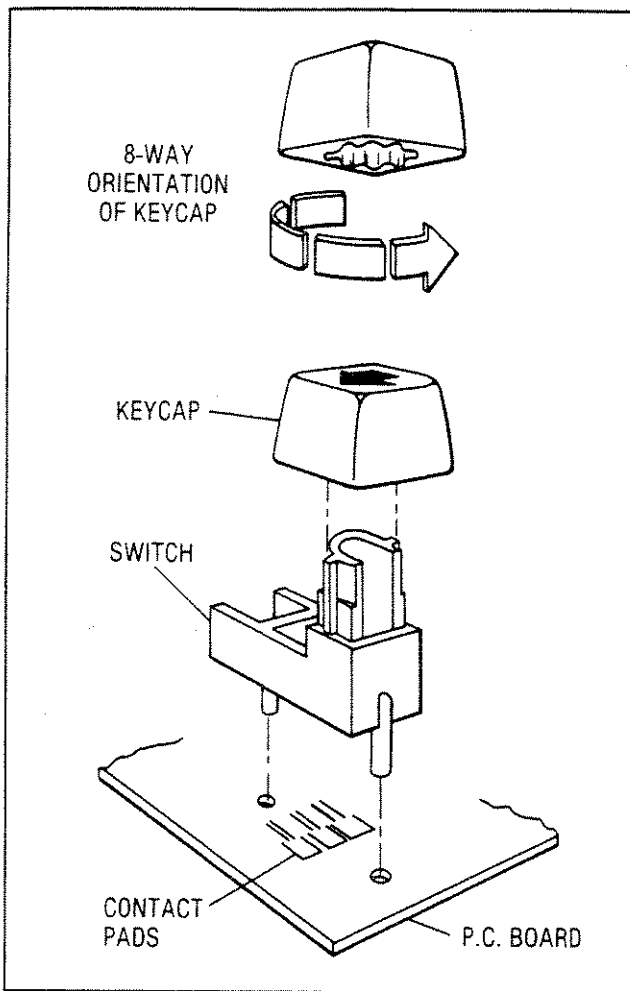

Figure 8-2. Front Panel Pushbutton Switch Assembly
*Be sure the key cap is aligned properly before snapping it into place. Note that the key cap has 8 possible positions (see Figure 8-2).*